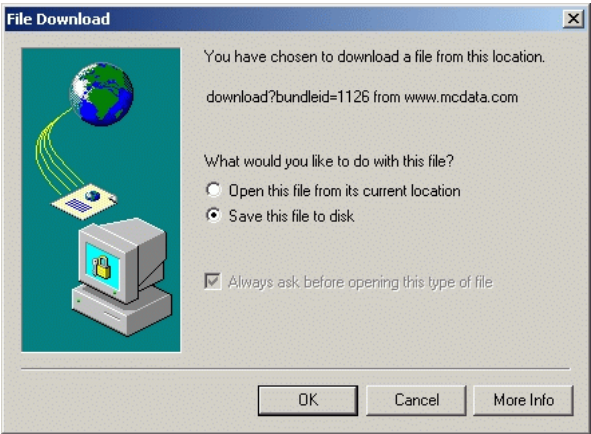

Figure 4-28 File Download Dialog Box
- In the *Action* column adjacent to the approved request for the firmware version, click *Download*. The *File Download* dialog box displays (Figure 4-28).